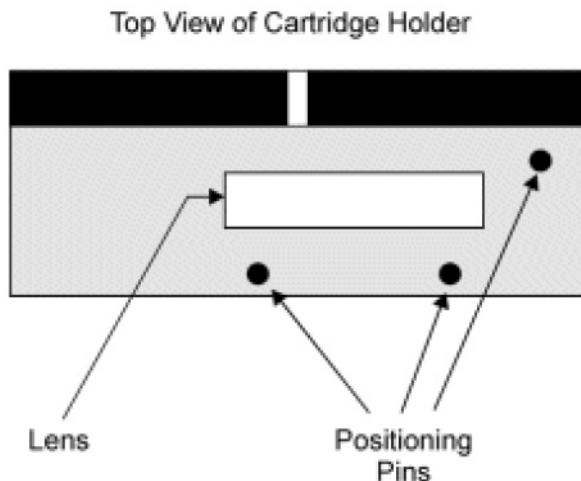

Figure 6-4: Cartridge holder top view.
10. Open the front door of the iCE3 instrument to access the cartridge holder (Figure 6-4).